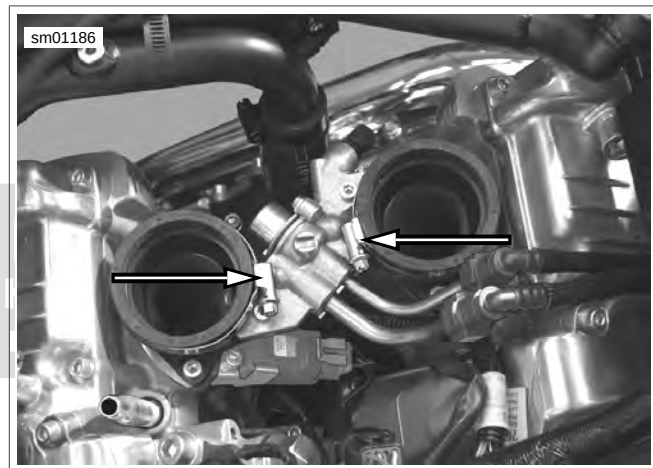

Figure 1-73. Intake Clamps, Throttle Body Removed (typical)
39. See Figure 1-73. Position intake clamps as shown.
43. Attach the throttle position (TP) sensor.